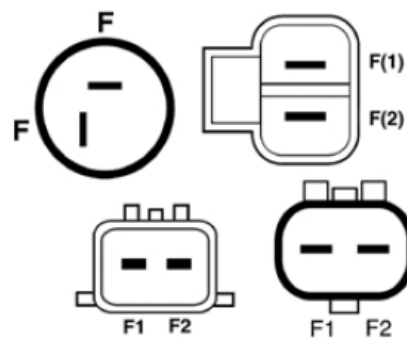

Figure 1
(Figure 1)
- With the key in the off position, disconnect the 3-pin regulator connector and measure voltage in the center pin of the regulator (Figure 1). Voltage should be 7.5 volts or higher and is most commonly near battery voltage (regulator dependent). If voltage is less than 7.5 volts, and the alternator has adequate power and ground, replace the alternator.
- Turn the key off and reconnect the regulator connector. Carefully back probe the GENMON terminal (Figures 1 & 2). Start the vehicle and monitor the duty cycle and/or voltage. There is no fixed value—it is dependent upon battery SOC and vehicle loads. Once the vehicle has stabilized, add loads. The duty cycle and/or voltage should rise. Turning off loads should result in a decrease.
### **Multiple Field Terminals (Figure 1)**
Figure 1 shows a collection of connectors used on Chrysler alternators up to 2008. The terminals are labeled “F” for field: (F1) and (F2) or (F+) and (F-). Any indication of polarity does not affect alternator operation. Either wire can be hooked to either F terminal. When full power and ground are directly hooked to the field terminals it will operate at maximum output or full field.